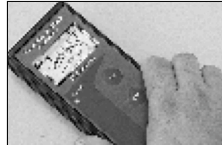

Figure 3
- **Tramex Concrete Moisture Encounter Meter** (Figure 3): Moisture readings should not exceed 4.5 on the upper scale. (Figure 3 shows an unacceptable reading of over 4.5.) Concrete Moisture Meters give qualitative reading results-not quantitative ones. A quick way to determine if more testing is required.